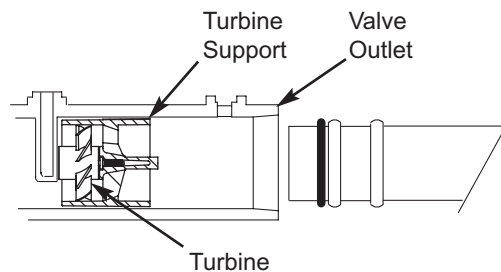

FIG. 10
- d. Make sure that the turbine and support are in place in the valve outlet, as shown in Figure 10.